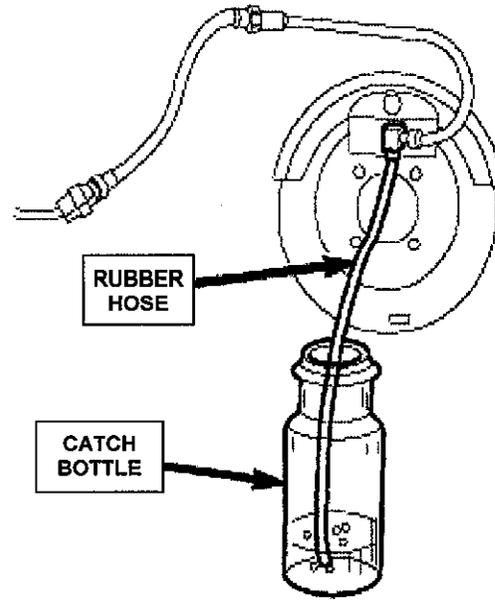

Figure 19 – Bleed Bottle and Hose (typical)
3. Attach a hose and catch bottle to the bleeder screw (Figure 19).